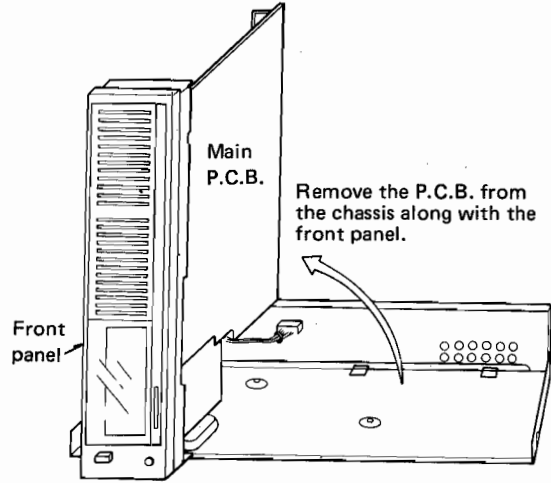

Fig. 6
6. Slightly draw out the front panel toward you along with the P.C.B., then raise the chassis as in Fig. 6 and check.